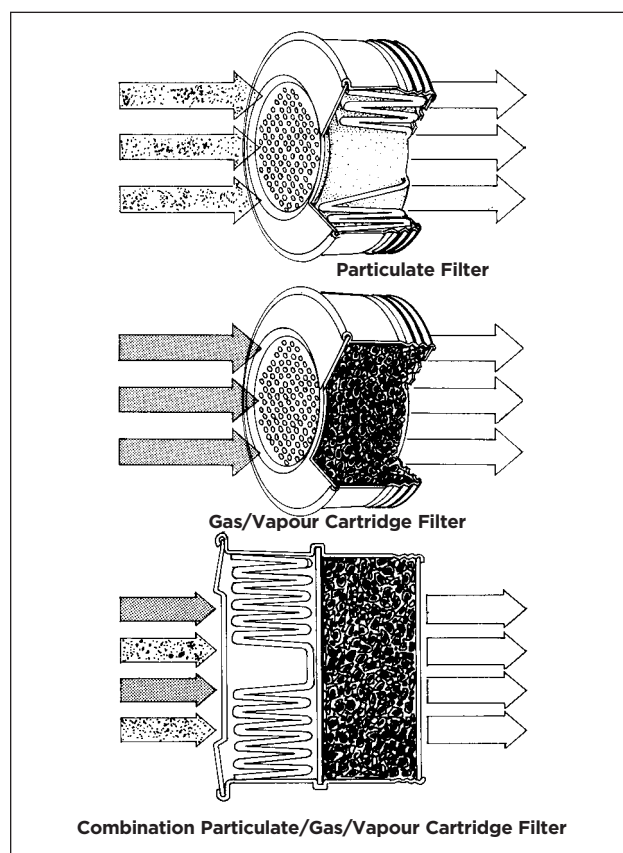

Figure 15-1: Filter Types
- 3) **Combination particulate/gas/vapour cartridge filters (Figure 15-1).**